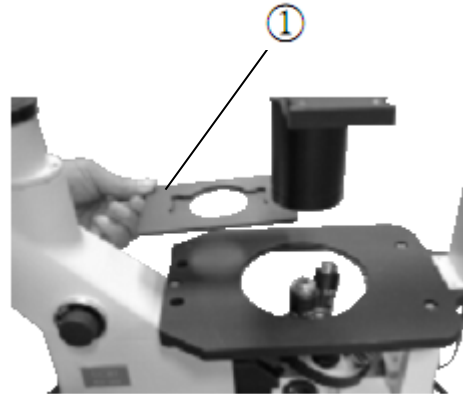
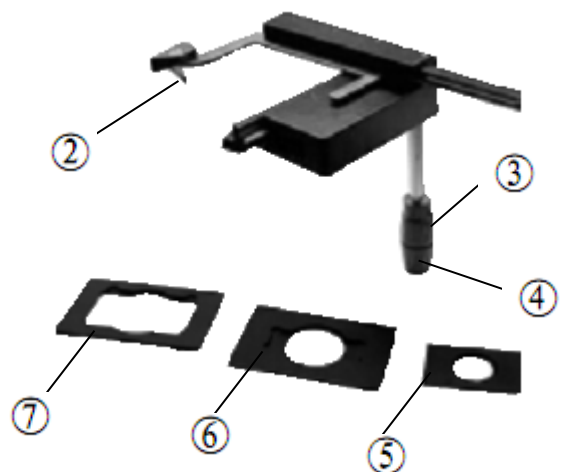

Fig.18
Fig.19
If the nosepiece dropped automatically, or the specimen defocused soon even you focus with the fine focus knob ③. It means the coarse focus knob is too loose, you should screw it down at the direction shown by the arrowhead in the Fig.18.
4-2-1 Placing the specimen (Fig.18& Fig.19)